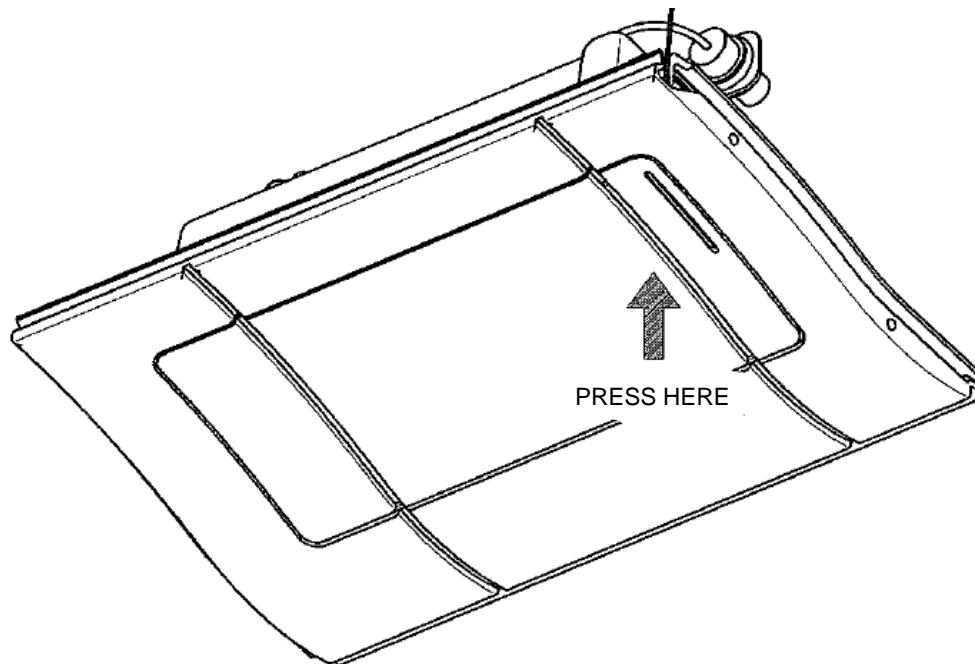

Figure 6 - Closing the Door on the right Hand Passenger Emergency Exit Mask Assembly
- Step 7. Close the door, pressing firmly in the centre of the door until the door latches as shown in Figure 6, and then verify that the door is locked.